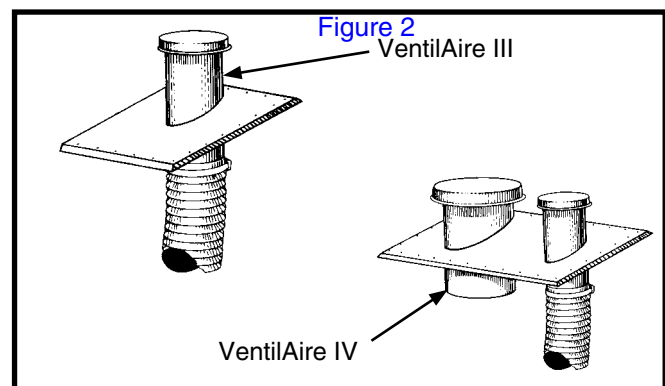

Figure 2. VentilAir III & IV
The Ventilaire air quality packages are available to meet the ventilation requirements as outlined in H.U.D. Standard Part 3280.103 (b) (2). These packages introduce outdoor air into the living space during furnace blower operation. The VentilAir IV also serves to exhaust moist and/or hot air from the attic space. Complete installation instructions are supplied with each air quality package. See Figure 2.